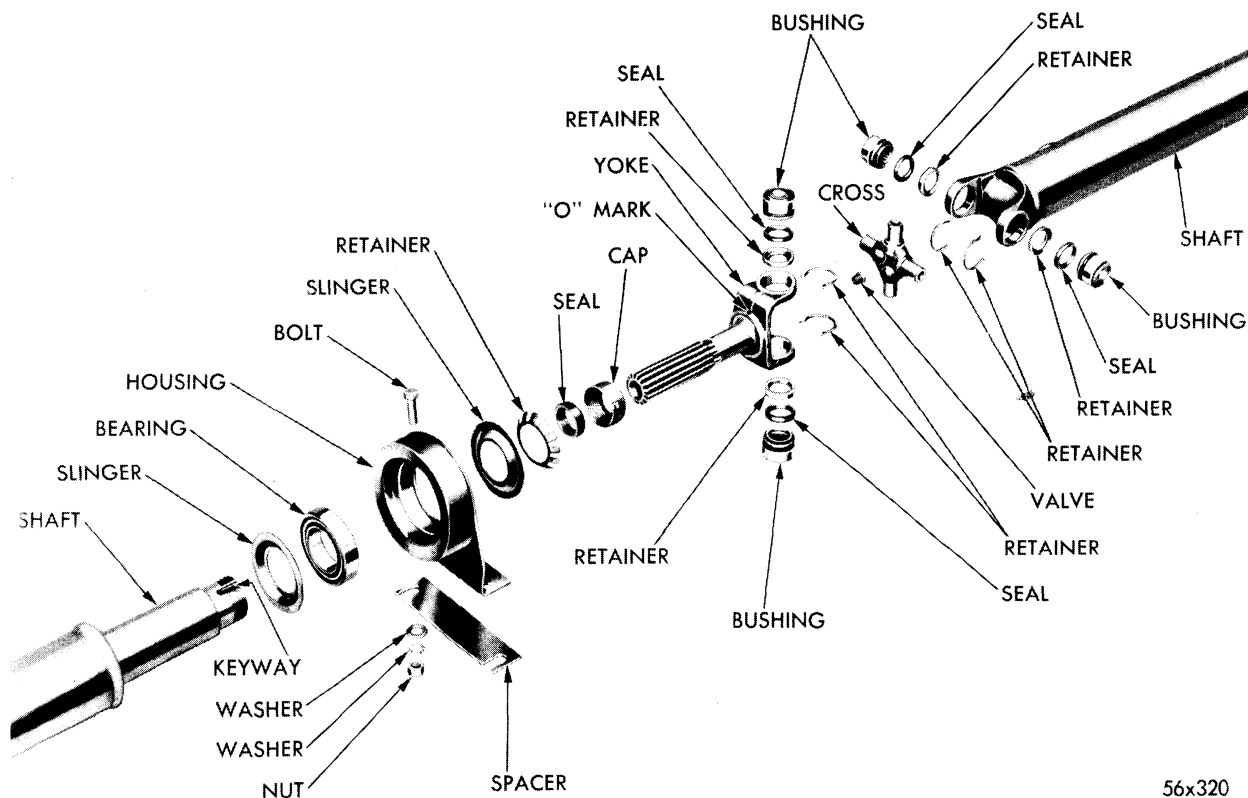

Fig. 12—Propeller Shaft and Center Bearing Assembly (Disassembled View)
**Make certain that all of roller bearings are correctly placed in roller bushing. Also, be sure balance arrows are in alignment (Fig. 12).**
### 7. SERVICING PROPELLER SHAFT CENTER BEARING (FIGURE 12)
Check the indexing of universal joints and propeller shafts assembly, as shown in Figure 12. The letter "O" on front face of spline should be lined up with key slot at rear of front shaft.